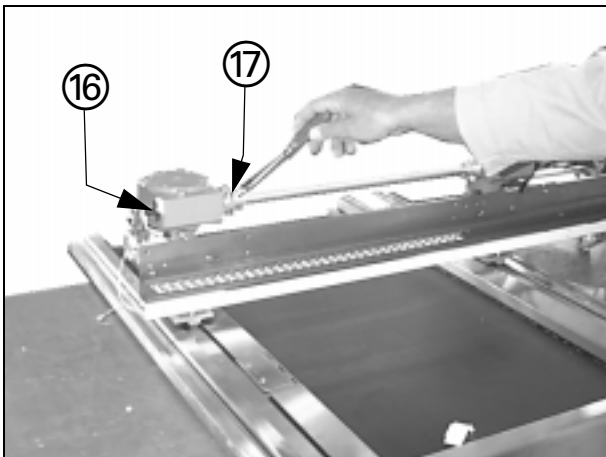

Fig. 15
To do so, remove the drive from the clutch by removing the two Allen set screws (Fig.15).
- Move the gear toward the clutch using the shaft that protrudes slightly from the gear (16/Fig.15) until the tilt is corrected.
- If the distances are the same, secure the clutch (17/Fig.15) to the gear using the two set screws.